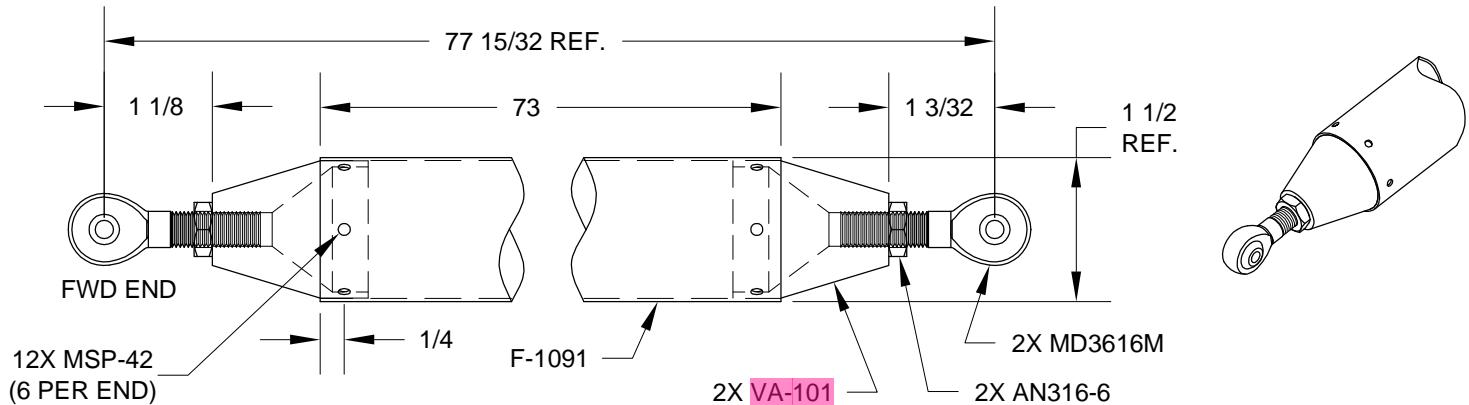

FIGURE 2: PUSHROD ASSEMBLY
Step 3: Cut the **F-1091** Pushrod to length from AT6-035 X 1 1/2 aluminum tube as shown in Figure 2.
Reinstall the threaded insert and rivet as called out in Figure 2. Thread the jam nuts onto the rod end bearing shanks then thread the rod end bearings into both ends of the pushrod. Leave the jam nuts finger tight for now.